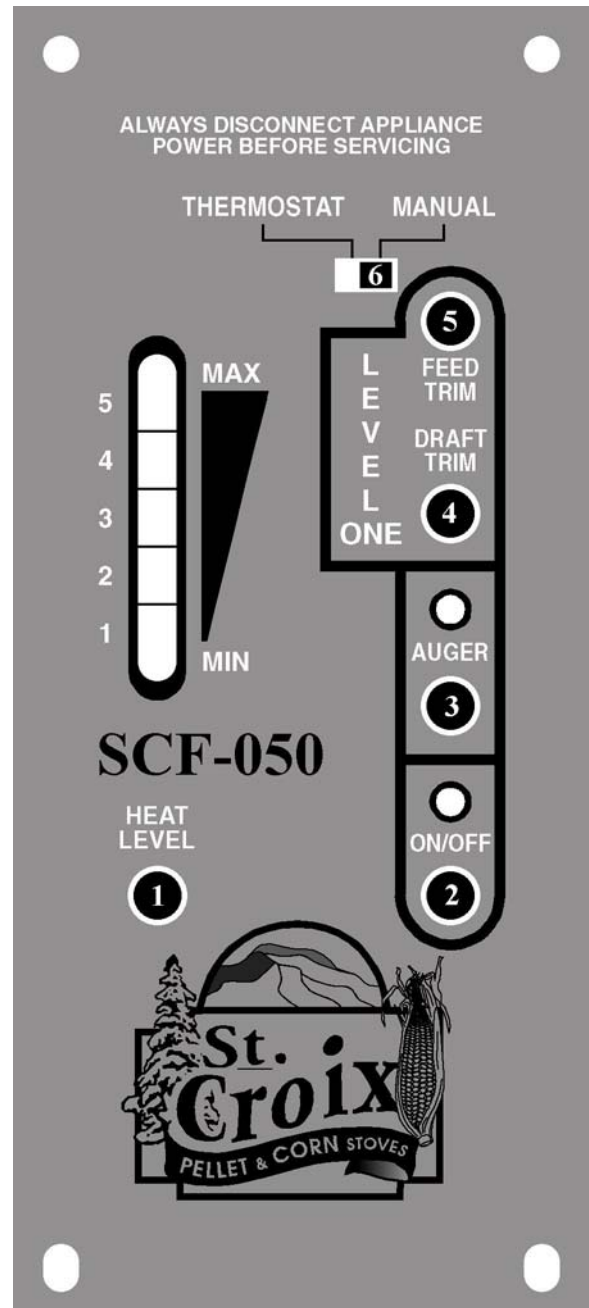

Figure 14
A closer look at the Control Board to the right in figure 14 will explain how the board works. There are five buttons labeled 1 through 5, a slide switch labeled 6 and a LED Light bar with 5 Heat Settings. ***The LED Light bar is also used during the Diagnostic process, see page 28 for more details.***
The buttons on the board function as follows: (Refer to Figure 14. The touch pad buttons are labeled with the white numbers 1 through 5)
### **Shutting The Furnace Off** *(Refer to Figure 14)*
The #2 LED and the #3 LED lights on the LED Light bar as show in figure 14 will flash to give a diagnostic code to help in diagnosing problems that may occur.
1. The **Proof of Fire** switch. This switch will sense the temperature of the Exhaust rising during start up. If the Exhaust temperature does not reach 110 degrees F, or if during use the temperature drops below 110 degrees F, the Furnace will go into **“Internal Alarm”** and the Auger will quit feeding fuel. Once the Furnace completes the safety shutdown, the #3 LED will start blinking. *(See Figure 14 on Page 25)*
2. The **High Limit** switch. This sensor will sense if the unit reaches temperatures that are too high for normal operation. If this happens the Auger will quit feeding and the #2 and #3 LED lights will flash simultaneously. *(See Figure 14 on Page 25)*
3. The **Vacuum** switch. For the Furnace to operate correctly the firebox needs to be sealed. During the first 30 seconds after the Furnace has been turned on the control board will check to see if the switch senses negative pressure (Vacuum) in the firebox of the Furnace. If there is no negative pressure, the Furnace will go into “Safety shutdown” and the #2 LED will start blinking. *(See Figure 14 on Page 25)*